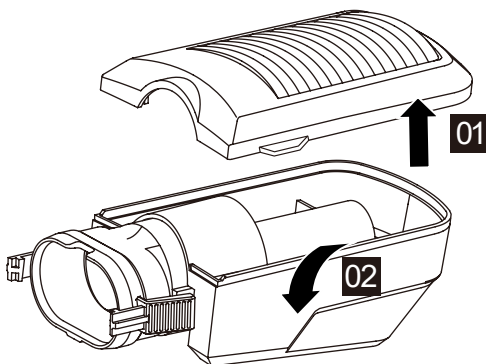

Figure 5
5. EMPTY THE DUST BOX (SEE FIG. 5)